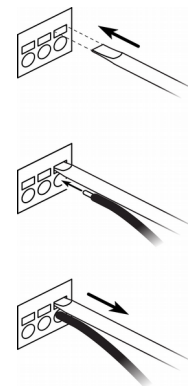

Fig 6 Inserting wire into rear terminals
- Connect the panel enclosure wiring to the rear Ex e approved terminals. To fit a wire into a terminal, insert an instrument screwdriver into the slot at the side of the wire entry and gently push the screwdriver towards the entry as shown in Fig 6. This will open the gripping spring and allow a wire to be inserted into the terminal. When the screwdriver is withdrawn the wire will be secured. Only one wire should be inserted into each terminal.